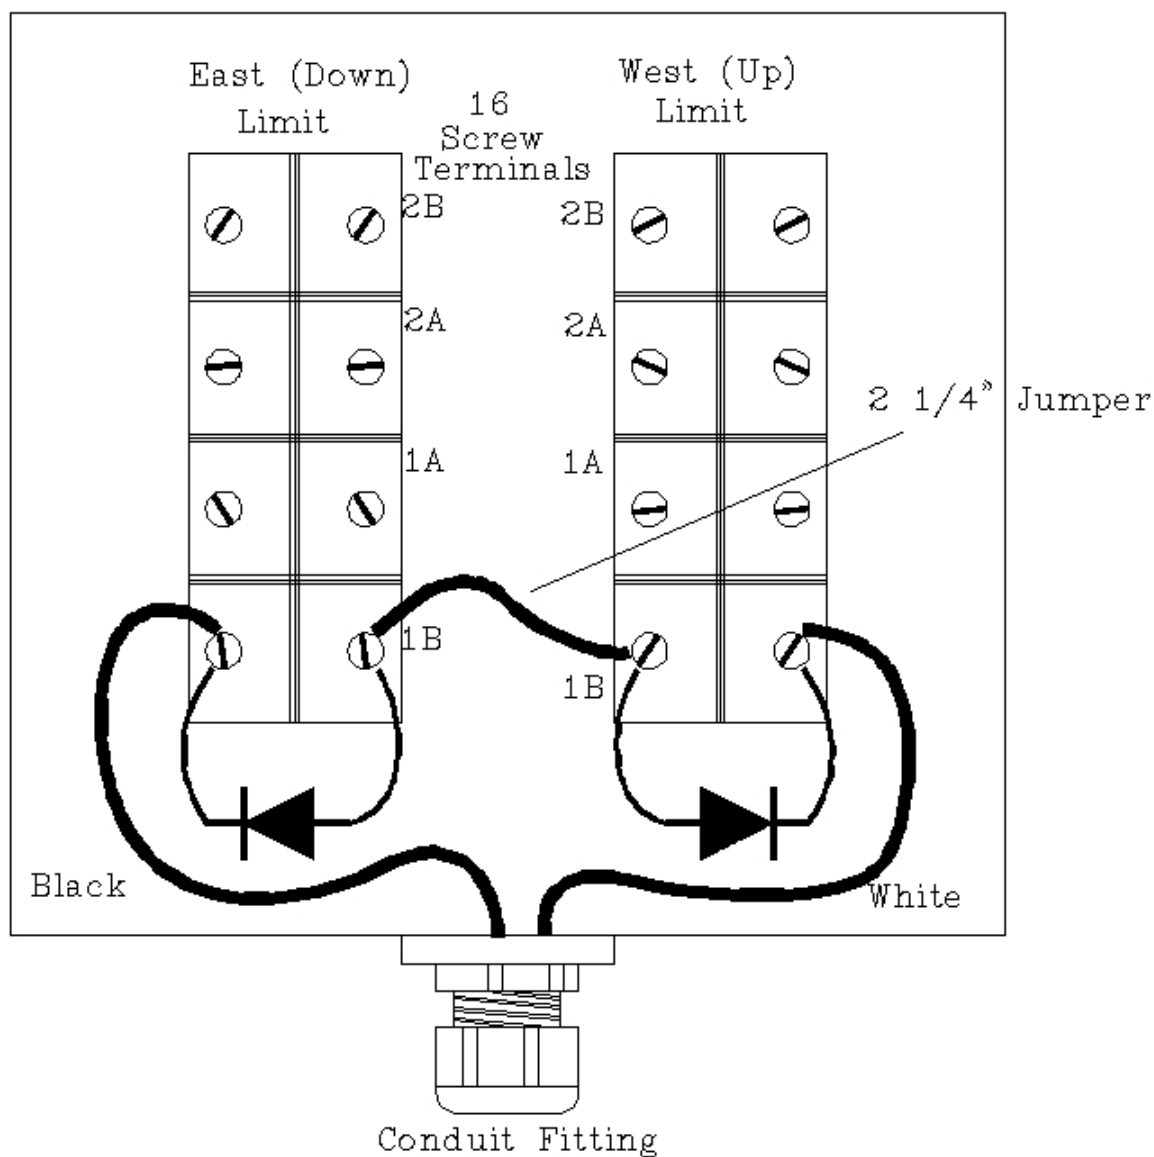

Figure E3
6. At the azimuth and elevation limit switches connect the 16/2 cables to the limit switches (refer to figure E3). The diodes and the jumper should be installed. Use the spaded terminals for these connections.